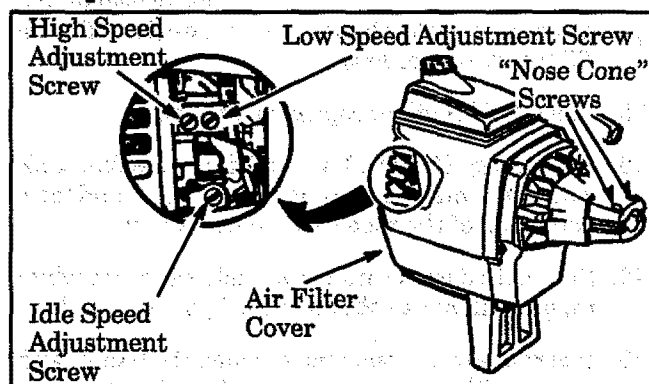

Figure 24
- a. Turn the low speed mixture screw and the high speed mixture screw (Figure 24) clockwise until they stop. *Do not turn screws until they are tight as damage to needle seats can occur.*
2. Adjust idle speed screw (Figure 24) until the engine continues to run without stalling and without the trimmer head moving.
- b.) If the engine does not accelerate smoothly, turn the low speed mixture screw (Figure 24) counterclockwise a small amount (no more than the width of the slot in the adjusting screw).
2. Turn the low speed mixture screw (Figure 24) slowly clockwise until the speed starts to drop. Note this position.
3. Turn high speed mixture screw (Figure 24) very slowly clockwise until engine speed is reduced.